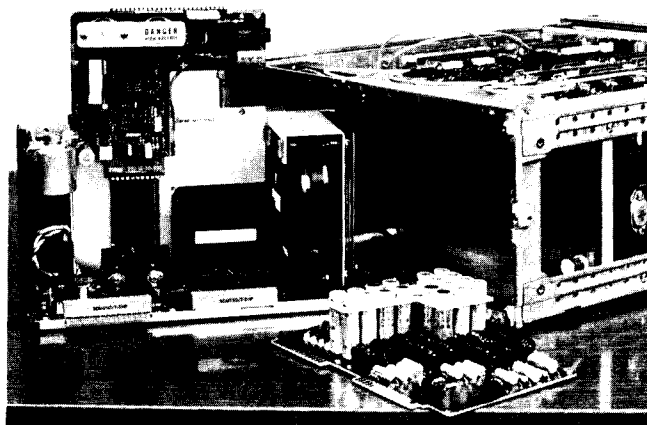

Figure 8-3-4. A12 Removal
2. Remove rectifier board A12 as shown in Figure 8-3-4